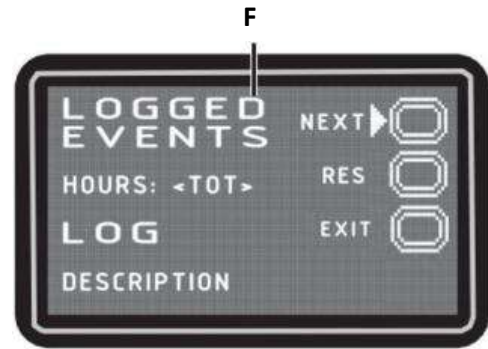

Figure 8
**Alarms log screen (F, Fig. 8)**